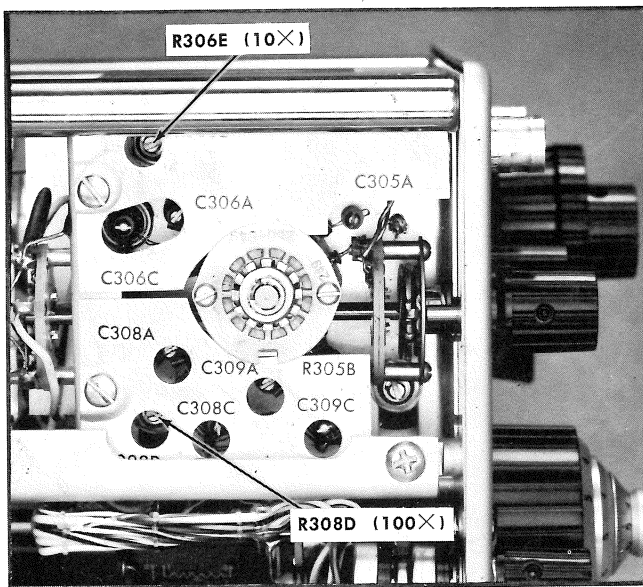

Fig. 5-13. Location of —input attenuator adjustments, steps 22 and 23.
f. Set the —INPUT switch to DC. Check that the trace is located at graticule center. If it is not, adjust R306E (see Fig. 5-13) to return the trace to graticule center. To double check on the adjustment accuracy, set the —INPUT switch to Vc and back to DC. There should be no trace shift.
e. Set the —INPUT switch to DC. Check that the trace is centered. If it is not, adjust R308D (see Fig. 5-13) to return the trace to graticule center. As a check on the adjustment accuracy, set the —INPUT switch to Vc and back to DC. The trace should remain at graticule center for each of the —INPUT switch positions given in this step.